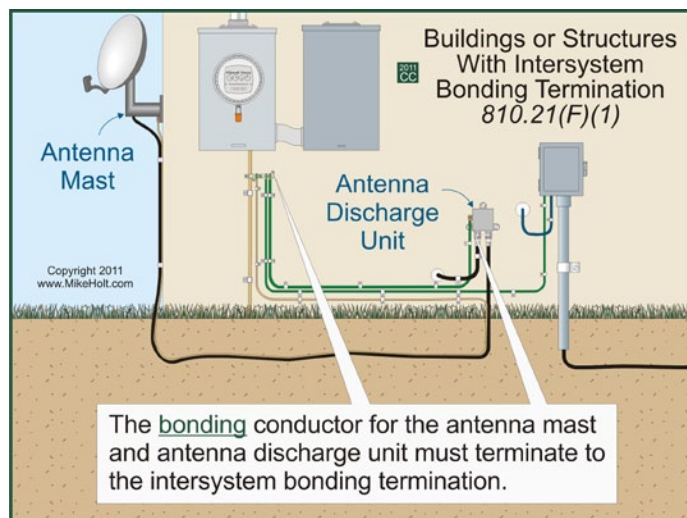

Figure 810-13
(1) Buildings or Structures With an Intersystem Bonding Termination. The bonding conductor for the antenna mast and antenna discharge unit must terminate to the intersystem bonding termination as required by 250.94 [Article 100 and 250.94]. **Figure 810-13**